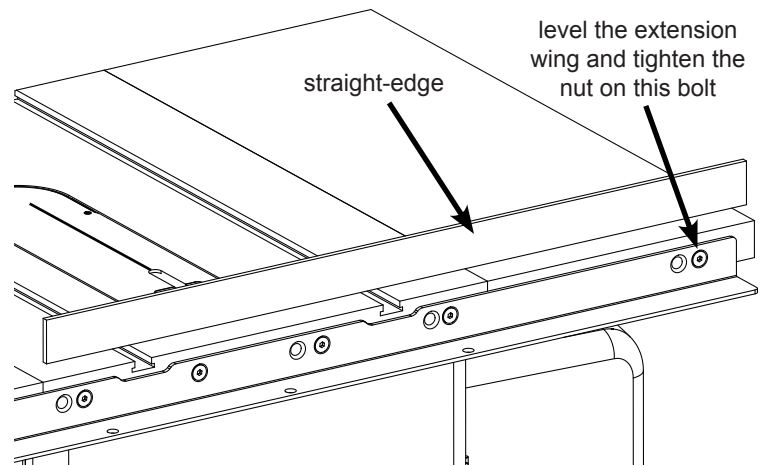

Fig. 8
8. Use a straight-edge to level the rear edge of the left extension wing to the cast iron table top (see Fig. 8). You may have to pull up or push down on the outer edge of the extension wing to level it. Once the rear edge of the left extension wing is level, use a 5 mm hex key and a 13 mm wrench to fully tighten the nut on the bolt that mounts the left extension wing to the rear rail. Repeat this process to level the rear edge of the right extension wing.